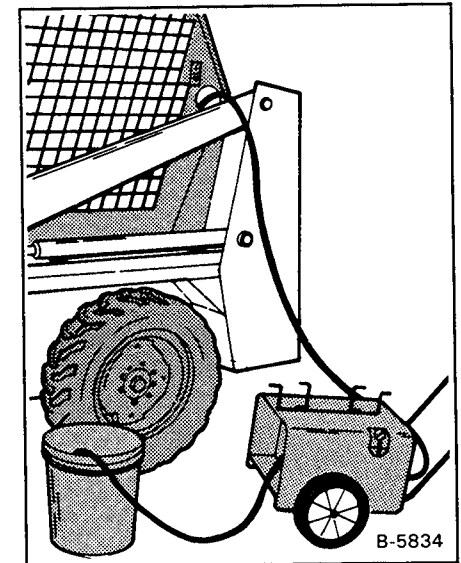

Fig. 80 Hydraulic Transfer Pump
3. Remove the fluid from the reservoir with a hydraulic transfer pump (Fig. 80) or a hand operated suction pump.